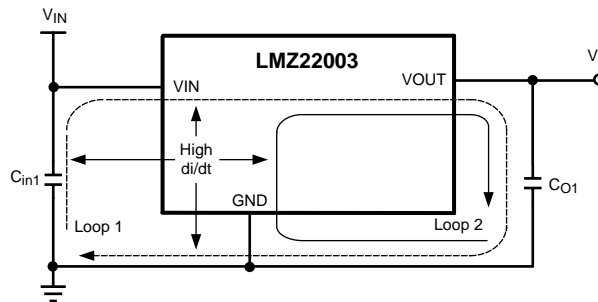

Figure 48. PC Board Layout
From an EMI reduction standpoint, it is imperative to minimize the high di/dt paths during PC board layout as shown in Figure 48. The high current loops that do not overlap have high di/dt content that will cause observable high frequency noise on the output pin if the input capacitor (C_{in1}) is placed at a distance away from the LMZ22003. Therefore place C_{in1} as close as possible to the LMZ22003 VIN and PGND exposed pad. This will minimize the high di/dt area and reduce radiated EMI. Additionally, grounding for both the input and output capacitor should consist of a localized top side plane that connects to the PGND exposed pad (EP).